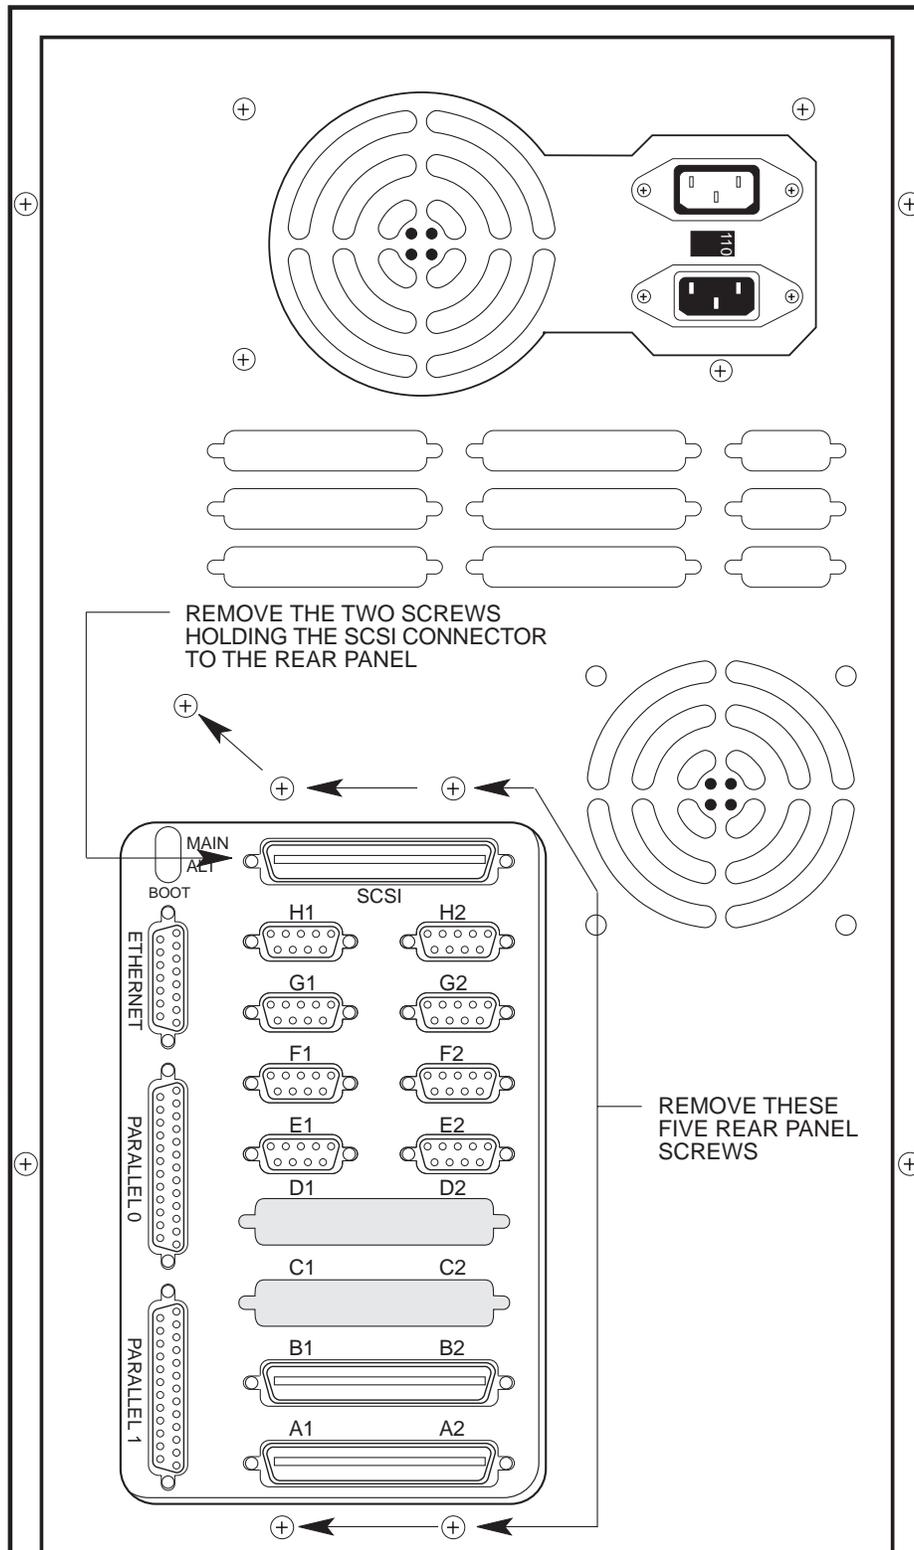

Figure 7-6: Removing the Old Rear Panel
2. Remove the five screws attaching the rear panel to the chassis, as shown in Figure 7-6. Save these screws, also.